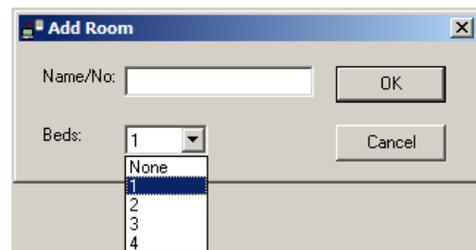

Figure 22
- Enter the Room name (Room 100, Apt 01, Room #102, Apt #16, etc.), **Figure 22**.